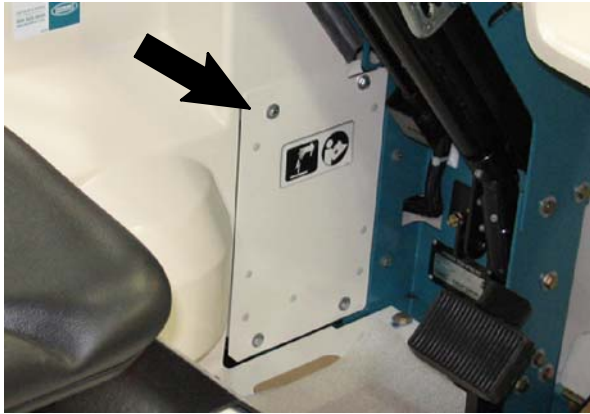
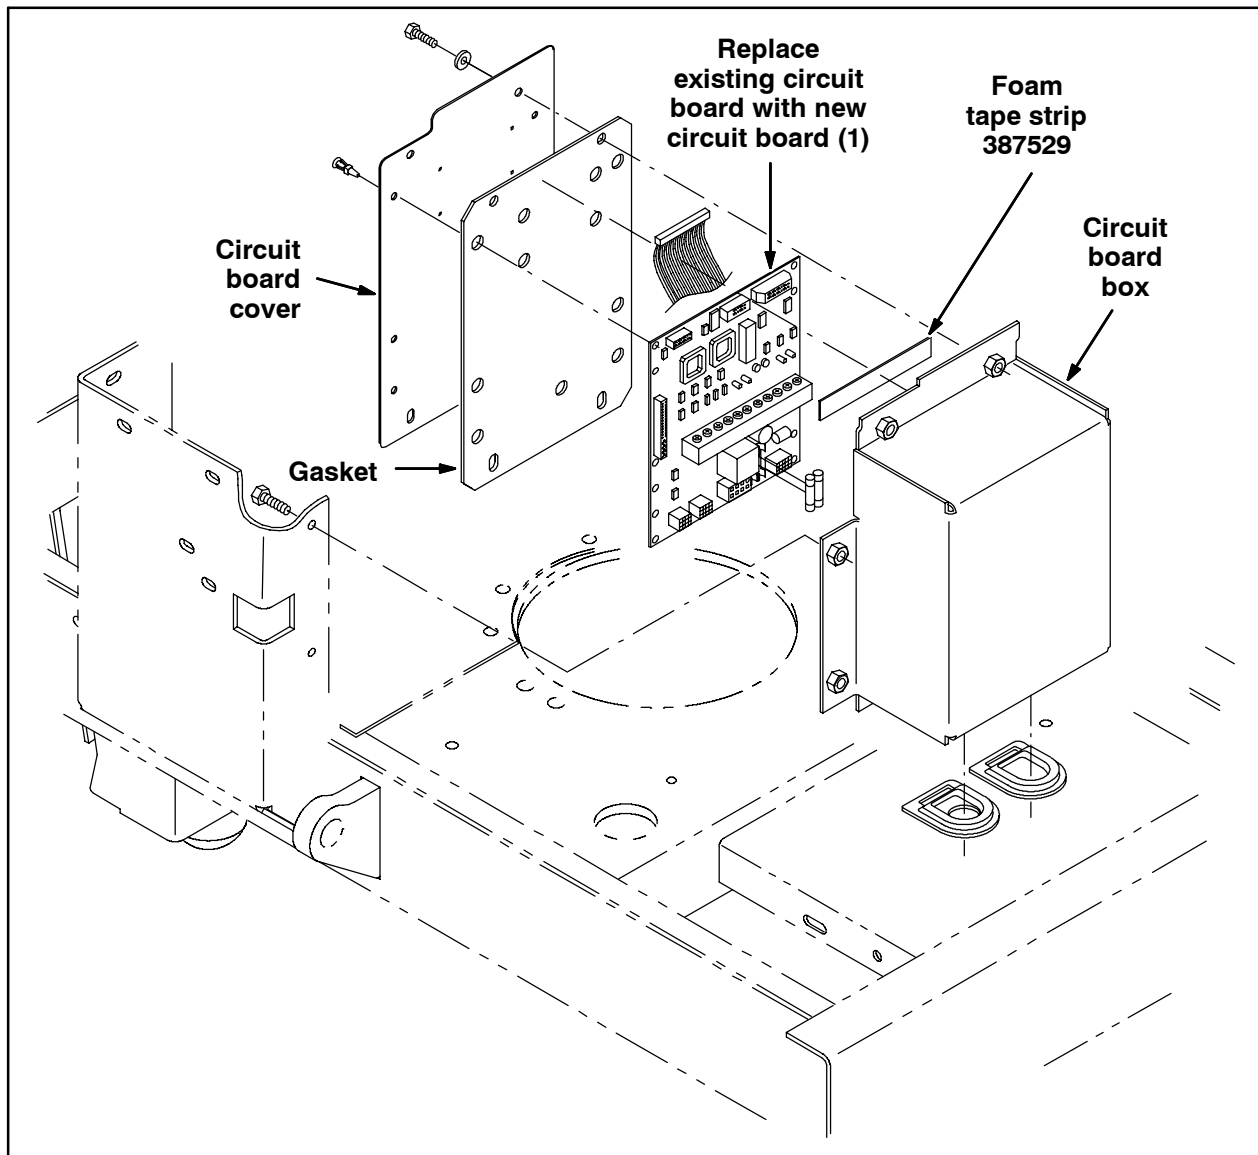

FIG. 2
FIG. 3
1. Remove the circuit board panel from the machine. Set the panel and hardware aside. Open the black plastic case containing the main control board. Refer to Fig. 2 and Fig. 3.